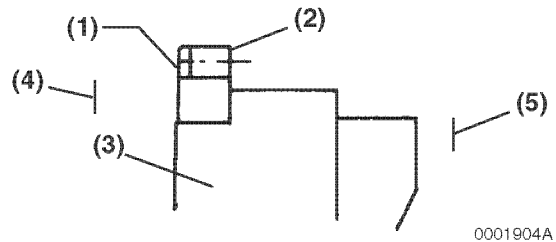

Figure 6-58
2. Carefully support the flywheel on cooling fan side (**Figure 6-58, (5)**). Heat the new ring gear to approximately 356°F (180°C).
3. Place the heated ring gear (**Figure 6-58, (2)**) onto the flywheel (**Figure 6-58, (3)**) with the chamfer on the teeth (**Figure 6-58, (1)**) facing toward the engine (**Figure 6-58, (4)**). Tap lightly with a hammer to ensure it is fully seated.